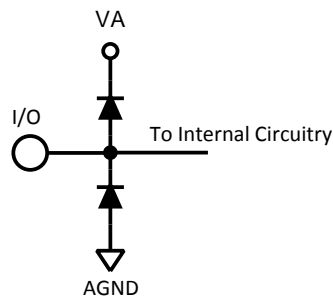

Figure 2. Analog Input Protection
- (1) The analog inputs are protected as shown in Figure 2. Input voltage magnitudes beyond the supply rails will not damage the device, provided the current is limited per Note 4 under the Absolute Maximum Ratings Table. However, input errors will be generated if the input goes above V_A and below AGND.
- (2) Test limits are specified to AOQL (Average Outgoing Quality Level).
- (3) Typical figures are at $T_A = 25^\circ\text{C}$, and represent most likely parametric norms at the time of product characterization. The typical specifications are not ensured.
The analog inputs are protected as shown in Figure 2. Input voltage magnitude up to 500 mV beyond the supply rails will not damage this device. However, input errors will be generated if the input goes above V_A and below AGND.